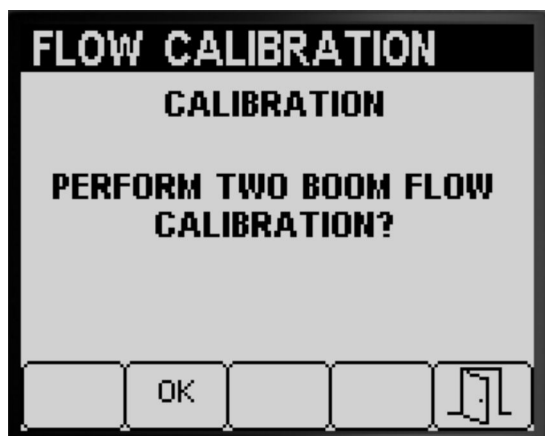

Figure 58
If you completed a 3-sprayer-section calibration, the Infocenter prompts you for a 2-sprayer-section calibration (Figure 58), perform 1 of the following:
- If you do not need to perform the 2-sprayer-section calibration, press button 5 to return to the Calibrate screen (Figure 58).